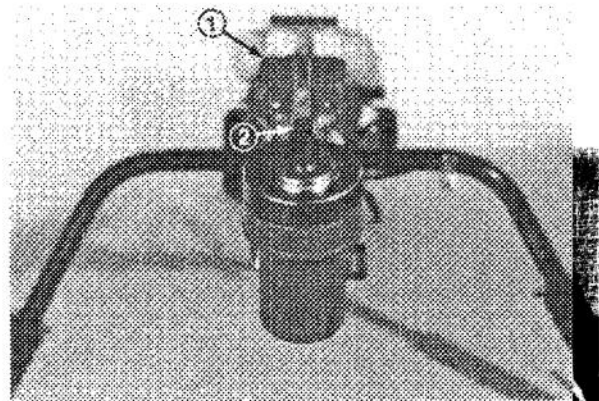

Figure 15
1. Make sure head guard bracket is aligned with the gear case shaft (Fig. 15). If not, loosen mounting fasteners and correct as necessary. Tighten fasteners to secure adjustment.